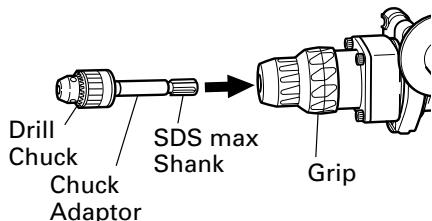

Fig. 14
(2) Attaching chuck adaptor to drill chuck (Fig. 14)
(3) Drilling